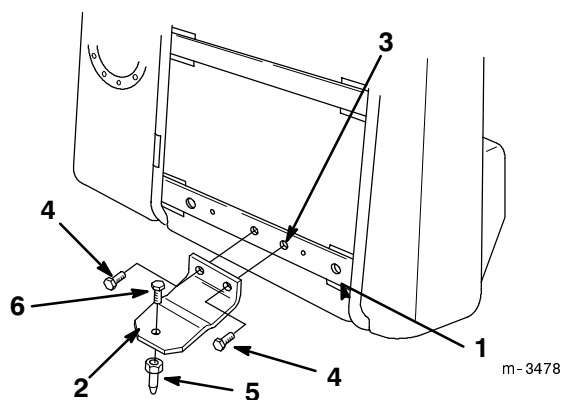

Figure 2
1. Align the right hole in the hitch plate tab with the alignment hole on the mounting frame (Fig. 2).
2. Secure the hitch plate to the mounting frame using two 5/16" x 1" bolts and 5/16" locknuts (Fig. 2).
3. Secure the hitch pin into the hole in the hitch plate using a 5/16" x 5/8" bolt (Fig. 2).